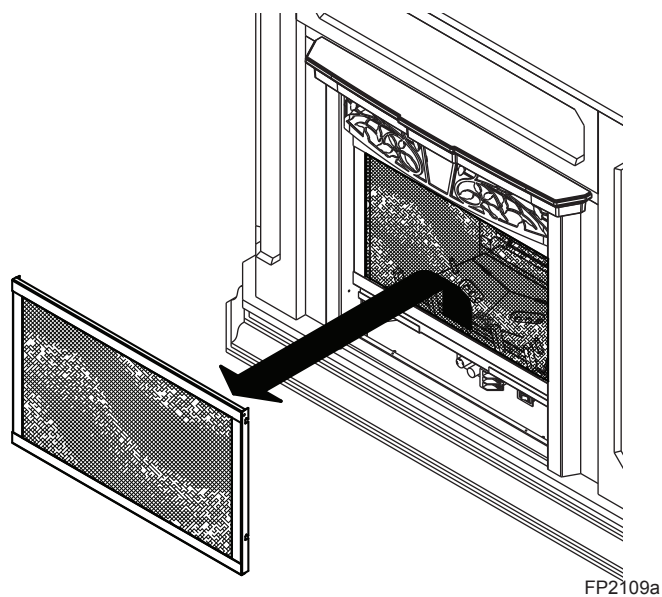

Figure 5 -
REMOVE SCREEN*Figure 5*
3. Remove fireplace screen (*Refer to Page 10, Figure 5*) and logs.